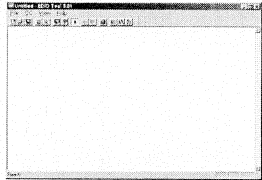
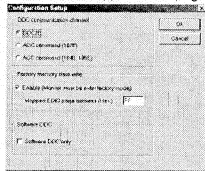

Fig. 11
Fig. 12
- Click icon as shown in Fig. 11 from the tool bar to bring up the Channels "Configuration Setup" windows as shown in Fig. 12.
- Select the DDC2B as the communication channel. Select "Enable" & fill out "F0" for Mapped EDID page address as shown in Fig. 12.